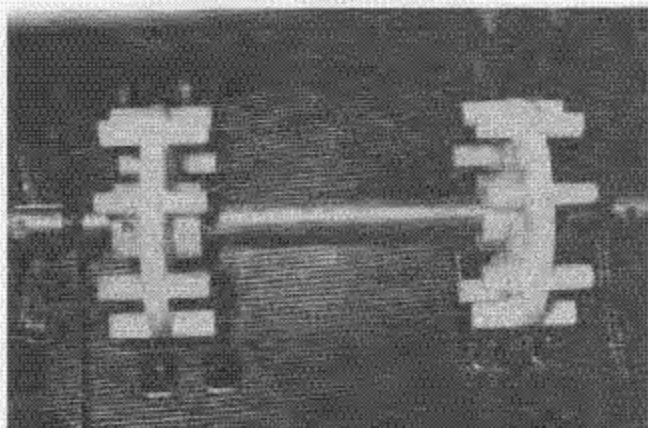

Fig. 46 — Sprockets Aligned with Track Lugs
5. With shaft started into left-hand bearing, align sprockets with lugs on track and holes in shaft. Fig. 46.